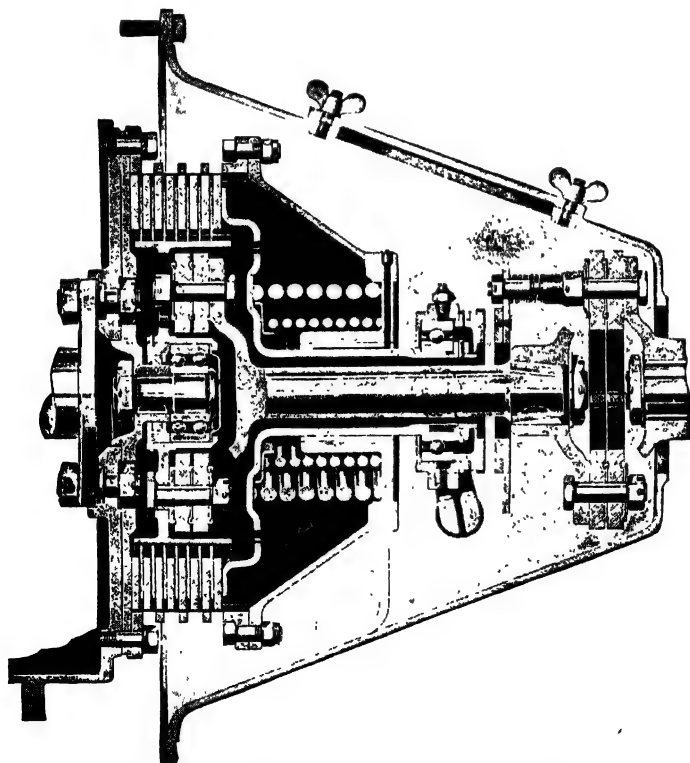
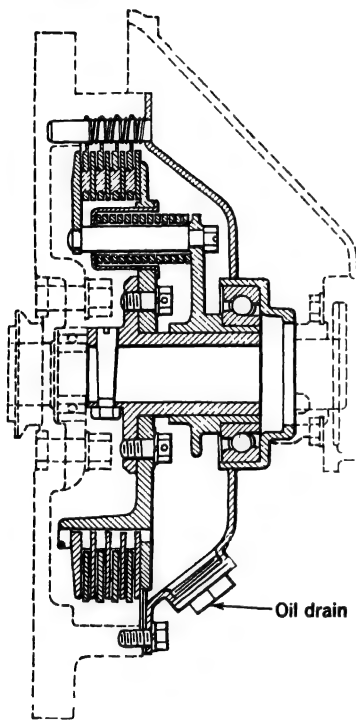

FIG. 41.—Multiple-disk Clutch—Dry Type.
FIG. 42.—Multiple-disk Clutch Running in Oil.
- a. Dry Plates (Fig. 41). b. Plates in Oil (Fig. 42).
Figure 41 shows a multiple-disk dry-plate clutch. In this type the driving and driven disks are stampings carefully flattened and machined to make them slide freely.
The multiple-disk clutch running in oil (Fig. 42) is inclosed in an oil-filled case. In most cases the disks are made of steel. A few multiple-disk clutches have been constructed with cork inserts. A slipping clutch of this type is caused in most cases by a weak clutch spring. If it grabs, the clutch spring will be found to be too tight or the oil too thin.